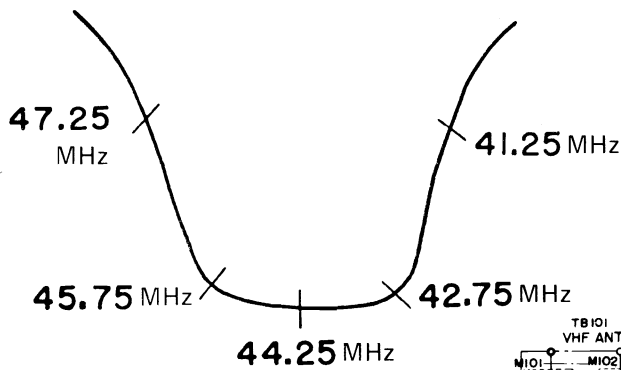

Figure 2
8. Set the marker generator to produce the desired marker frequencies and adjust T203 (Top and Bottom) to obtain a waveform on the oscilloscope equivalent to the pattern shown in Figure 2.